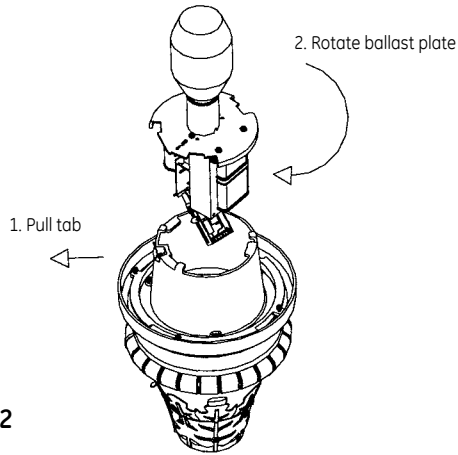

Figure 2
1. Access to ballast and capacitor is available by removal of ballast cap under lamp socket (see Figure 2)